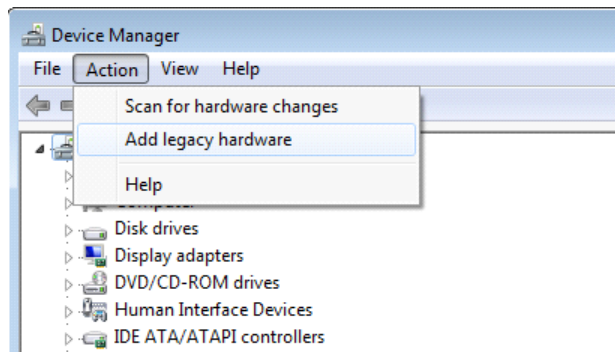

Figure 8. Adding Legacy Hardware
- d. Start the “Add legacy hardware” process from the “Action” menu as shown Figure 8.